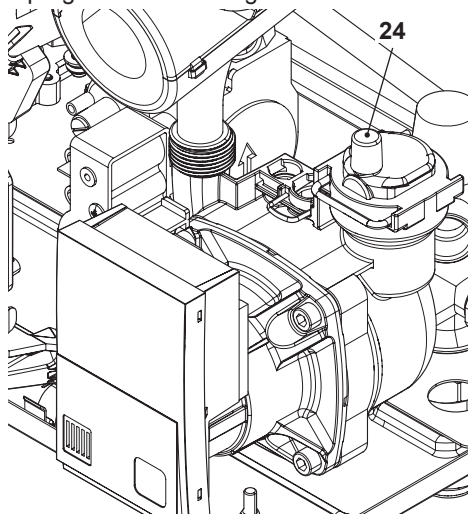
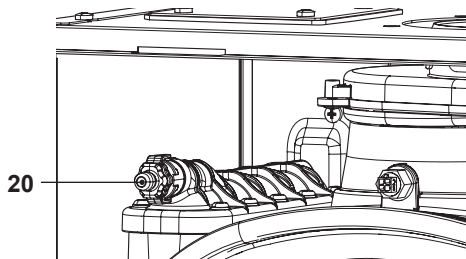

Fig. 10.7
Fig. 10.8
- To make draining easier, lift the plug 24 of the automatic relief valve in Fig. 10.7. To help the draining of the primary circuit loose the condensing heat exchanger air purger valve 20 in Fig. 10.8.